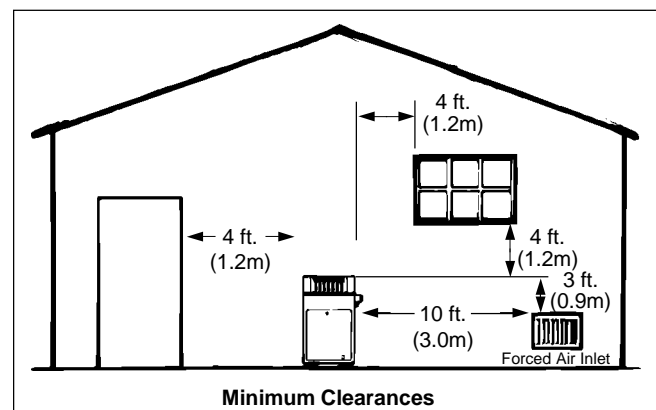

Figure 19. Outdoor Location Installation.
2. There must be a minimum of 4 feet (1.22 m) horizontally and vertically between the boiler and any door, window, or gravity inlet to a building (see Figure 19).